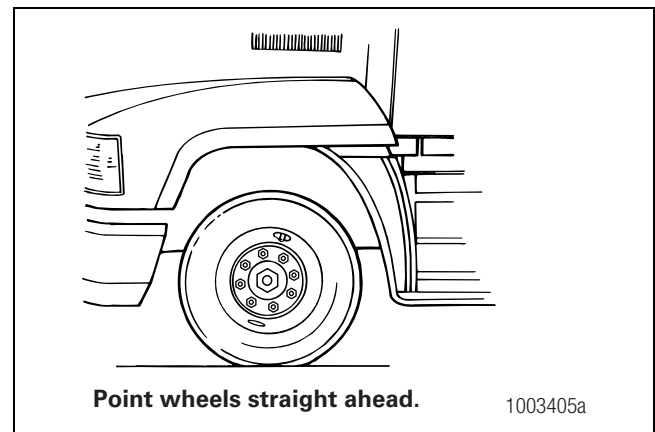

Figure 9.1
2. Turn the vehicle wheels to the STRAIGHT position. Figure 9.1.